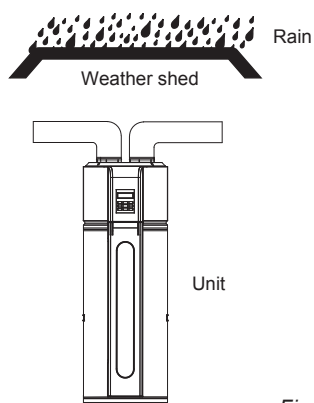

Fig.3-7
- In terms of the unit connects with duct reaching to outdoor, a reliable water-resistant measure must be conducted on the duct, to prevent water from dropping into internal of the unit. (Fig.3-7)